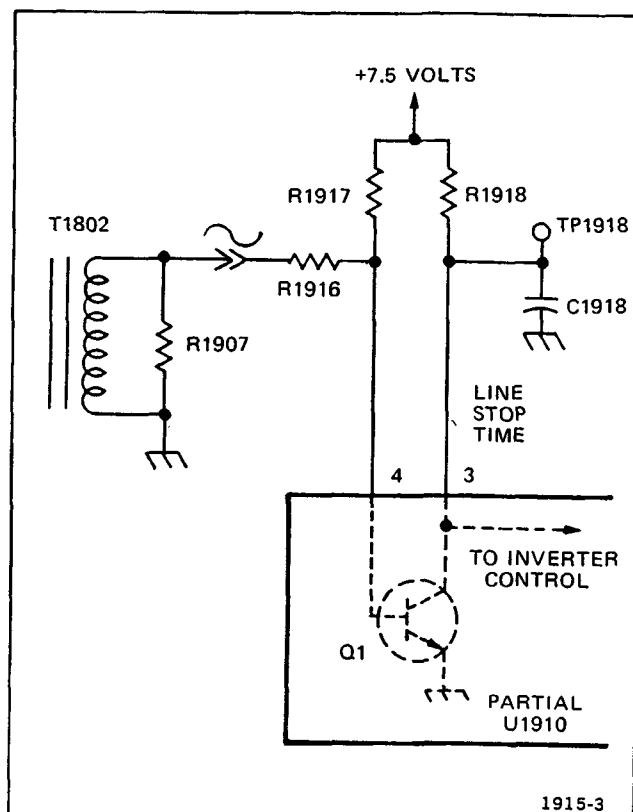

Fig. 3-15. Simplified Line-Stop Circuit.
while RT1821 and RT1822 cool and provide an increasing amount of surge current protection. See Fig. 3-15 for a simplified schematic of the Line Stop circuit.
1. Transformer T1802 supplies a sample of the line frequency to pin 4 of U910 (the base of Q1, see Fig. 3-15). During a portion of each positive half cycle of this voltage, Q1 is biased on. The higher the AC line voltage the sooner during the positive half cycle Q1 will be biased on. In normal operation, C1918 charges toward +7.5 volts through R1918. When Q1 is biased on, C1918 rapidly discharges through Q1.